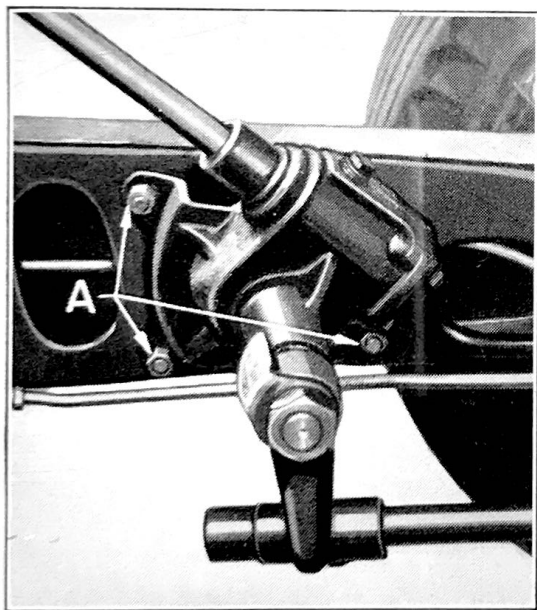

Figure 39
Gear Alignment is essential to prevent the column tube from binding. Should it be necessary to re-align the steering gear, proceed as follows: Loosen three mounting bolt nuts (A), Fig. 39, reached from inside of frame (Mounting bolts are serrated and pressed into frame and no wrench is required to hold head) just enough to permit shifting gear housing in frame to line up at angle determined by height setting of instrument panel gear bracket, and retighten nuts. Also loosen instrument panel gear bracket bolts and allow bracket to shift to match gear column position and retighten.